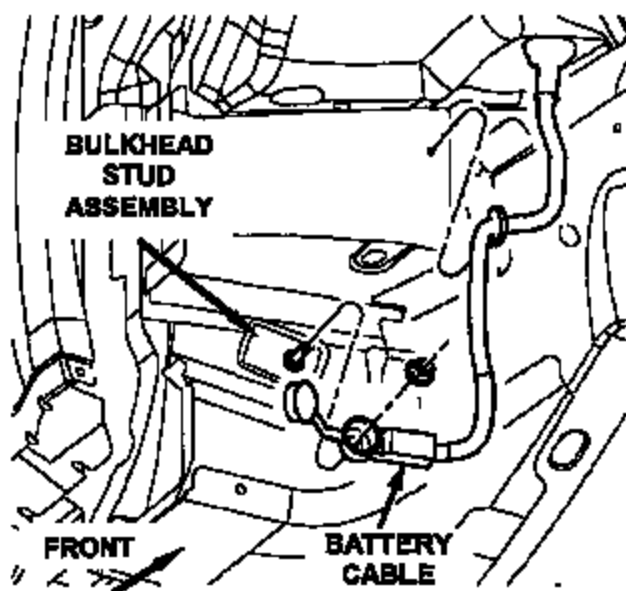

Figure 4
19. Inspect the battery cable bulkhead stud for signs of arcing and/or cross-threading (Figure 4). If the bulkhead stud is damaged, continue with **Section B – Replace Battery Cable Bulkhead Stud**.
20. Tighten the battery cable-to-bulkhead stud fastener to 80 in-lbs (9 N·m) (Figure 4).
2. Disconnect the battery cable from the bulkhead cable stud (Figure 4).
16. Install the battery cable onto the bulkhead stud (Figure 4). Install a new battery cable nut (P/N 06101809) and tighten to 80 in-lbs (9 N·m).